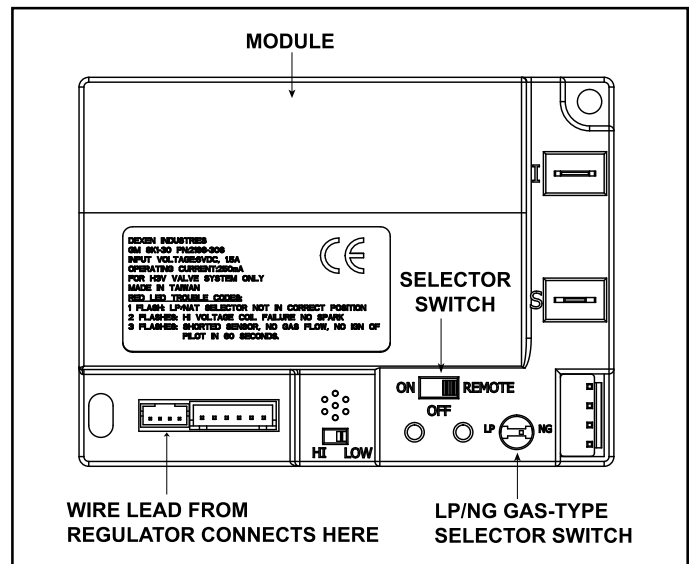

Figure 12.3 - Control Module
1. The control module has an ON/OFF/REMOTE selector switch that must be set. See Figure 12.3.
2. If using a wired wall switch with the module in REMOTE mode, the flame output can be adjusted with the HI/LO selector switch on the module. See Figure 12.3. Note that the flame HI/LO selector switch will become inactive once an optional remote control (RC300AU) is programmed to the control module. Note that the control module will always ignite the fireplace on HI and remain so for the initial 10 seconds of operation. If the HI/LO is switched to the LO position, the flame output will automatically drop to the lowest setting after the flame has been established for 10 sec. After this 10 second period, the flame can be adjusted from HI to LO with the switch.